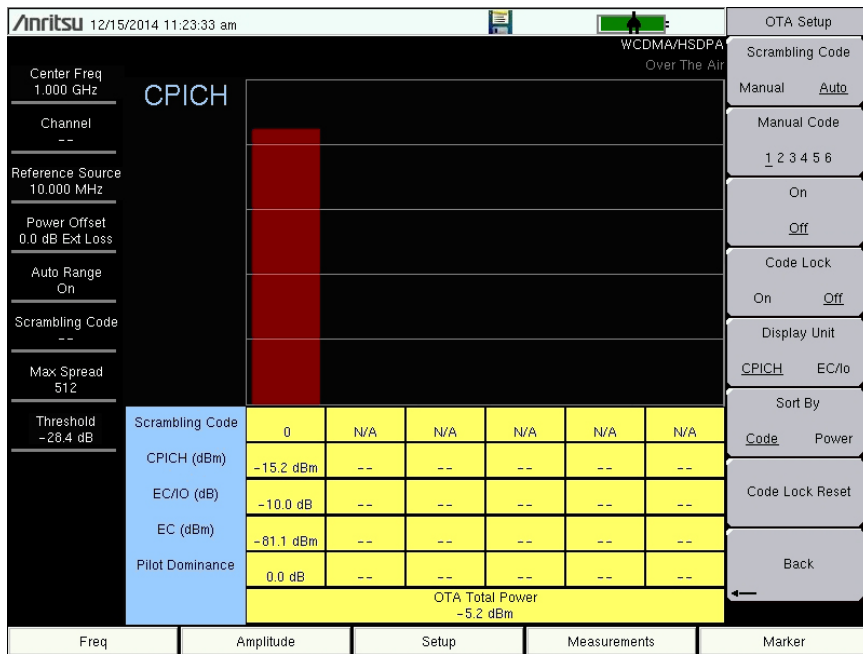

Figure 3-11. OTA Measurement Summary
5. Press the **Scrambling Code** submenu key and select Auto to automatically detect the six scrambling codes (Figure 3-11).